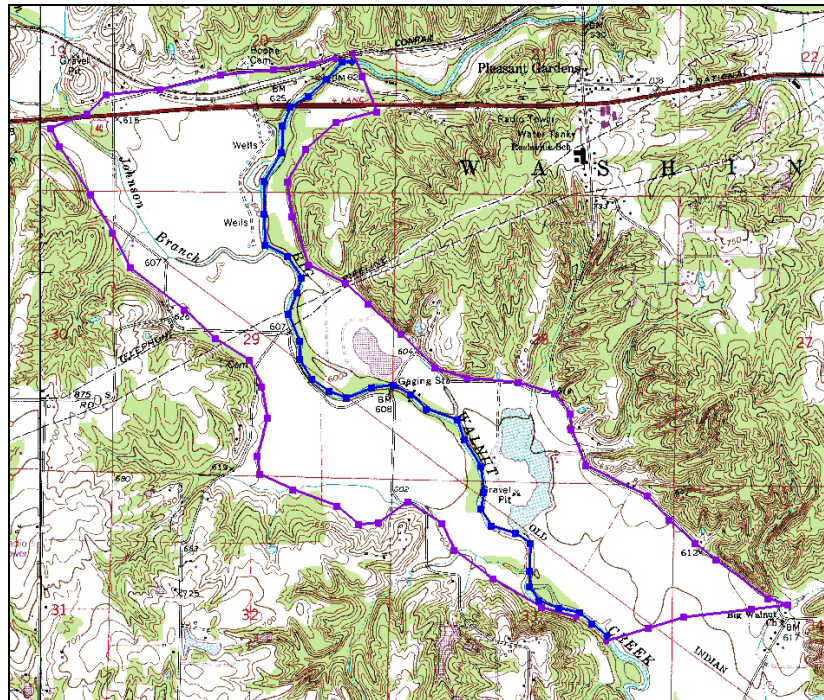

Figure 3-10 Modeling the River
6. Click out the river arc starting near the northern specified head boundary and ending near the southern specified head boundary, as shown in Figure 3-10 below. Don't extend the river beyond the boundary coverage.